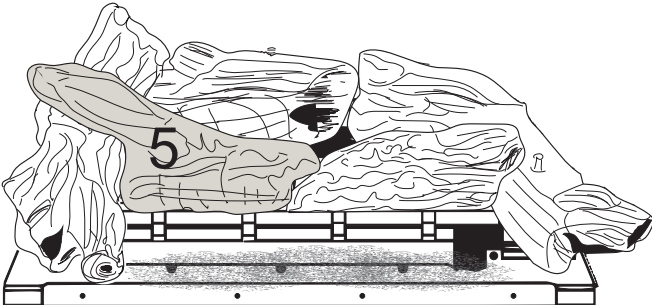

Figure 6 - Log #5 Placement
6. Hold log #5 with the pointed end toward the right. Place log #5 by positioning the pin locator hole on the bottom of the log over the left pin behind the grate and resting the left end of the log over the notch on log #3. The ember face of logs #4 and #5 should be straight and approximately 3/8" behind the grate bar. See Figure 6.